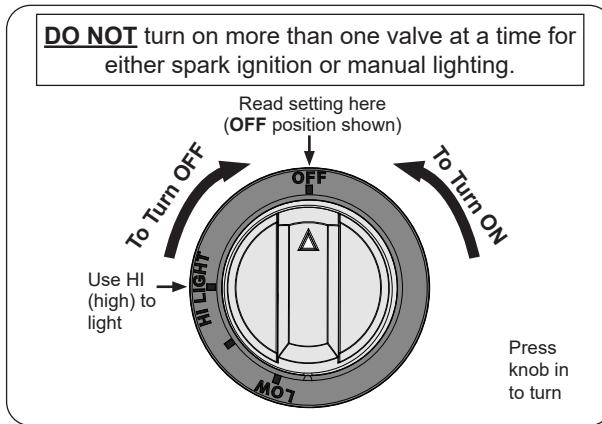

Fig. 33-1 Control knob
4. Depress the desired control knob, and while pressing turn it counterclockwise to the **HI LIGHT** position (Fig. 33-1). Once the burner lights, release the knob.